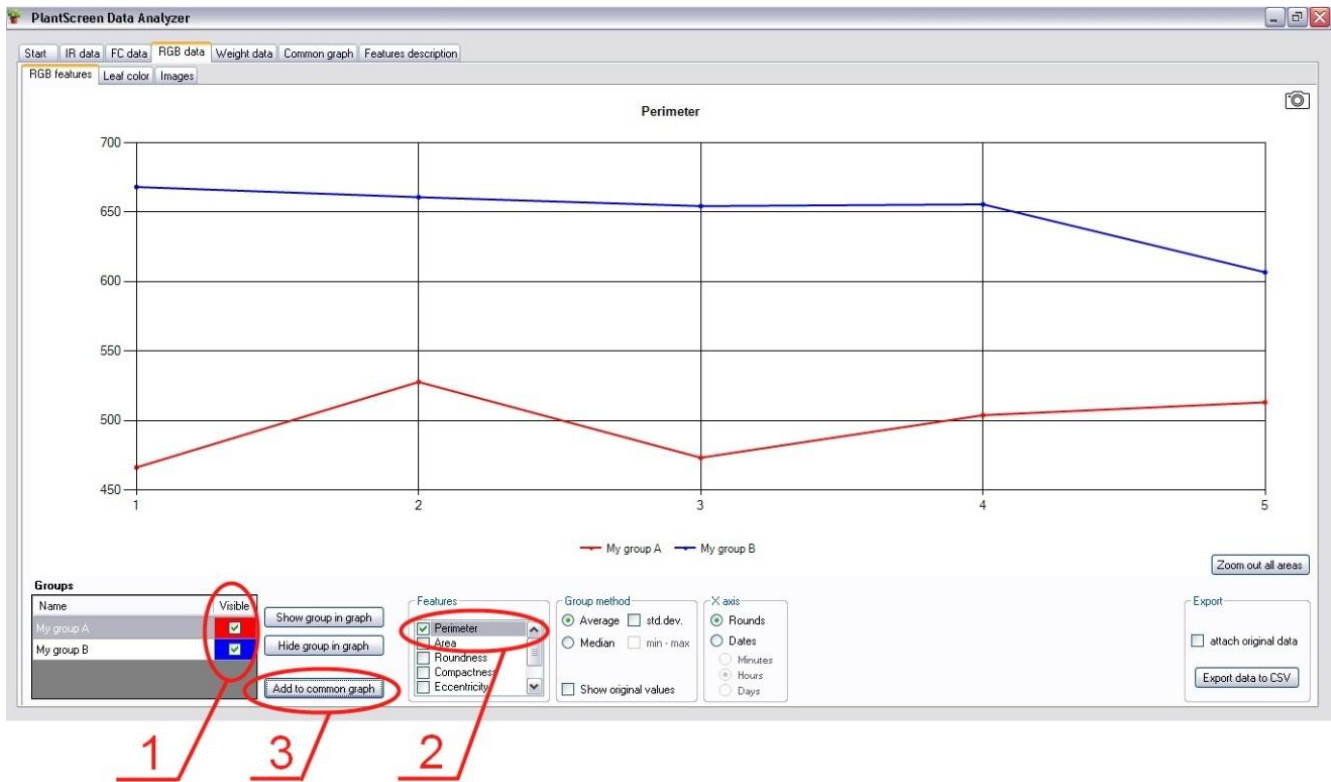

Fig. 19
- Go to tab “RGB data”, sub-tab “RGB features” (Fig. 19)
- o Check up if both groups are visible (Fig. 19, 1)
- o Add current graph items to common graph (Fig. 19, 3)